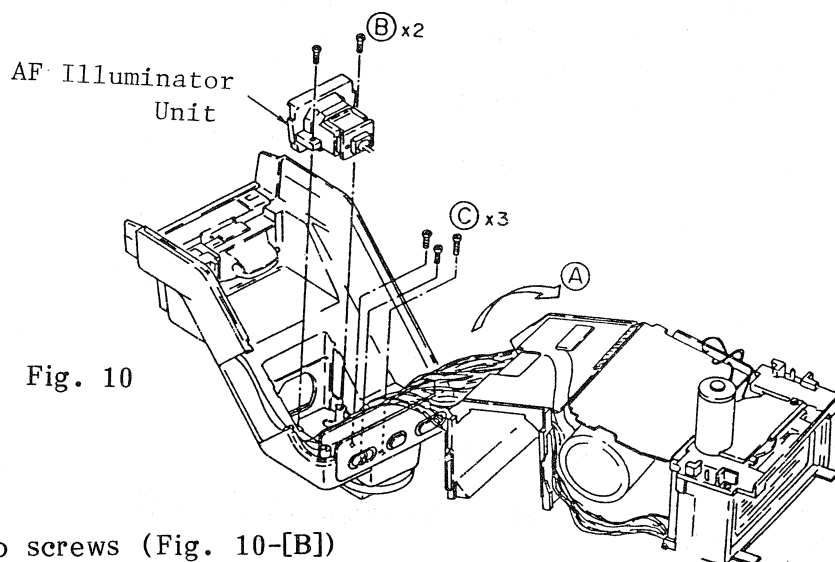

Fig. 10
3.3 Lift out the flash head and circuit board units in the [A] direction (Fig. 10).
3.4 Remove the two screws (Fig. 10-[B]) and lift out the AF illuminator.
3.5 Remove three screws (Fig. 10-[C]) and the shoe and tightening ring can be removed.